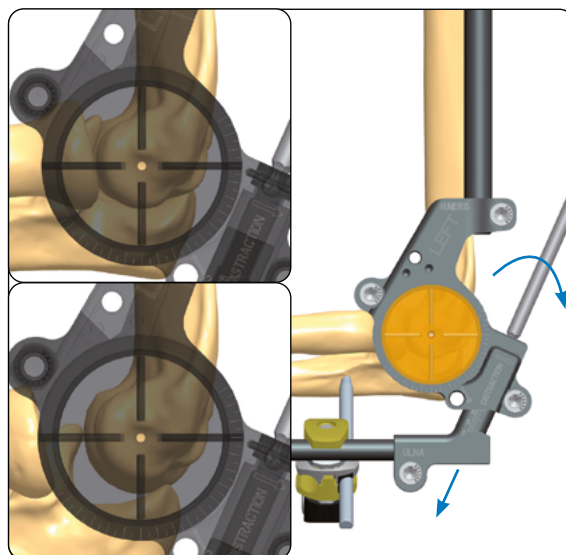

Fig. 13
11) The built-in distraction unit is not necessarily used in an acute elbow trauma. Sometimes it may help to protect the joint surfaces but distraction should be limited to 3-4mm. (Fig. 13).